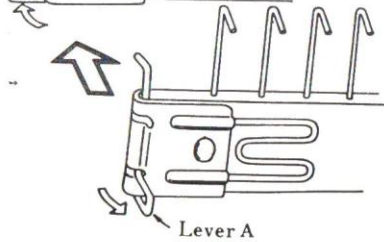

Fig. 9
- 2) Turn securing lever A at both ends to face you. (See Fig.9)